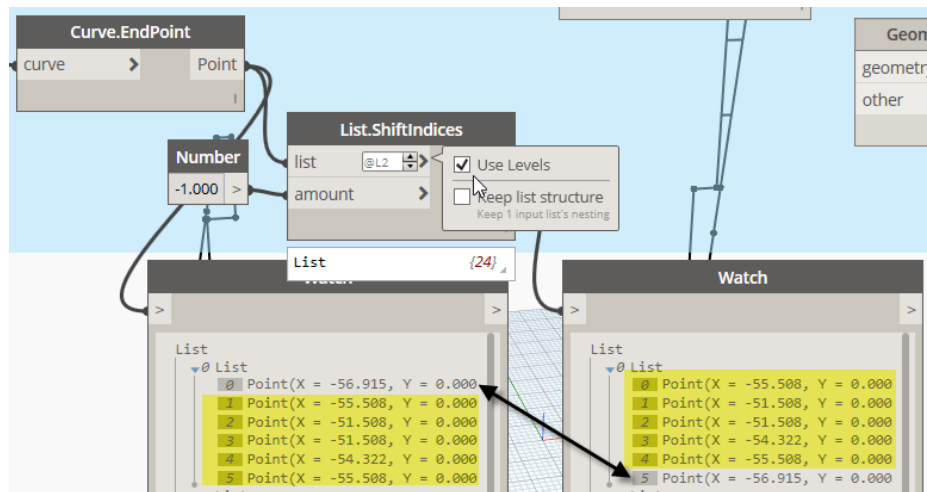

Figure 75
35. Click the small chevron next to the list port and check **Use Levels**. Make sure it is set to: **@L2** and run the graph (see Figure 75).